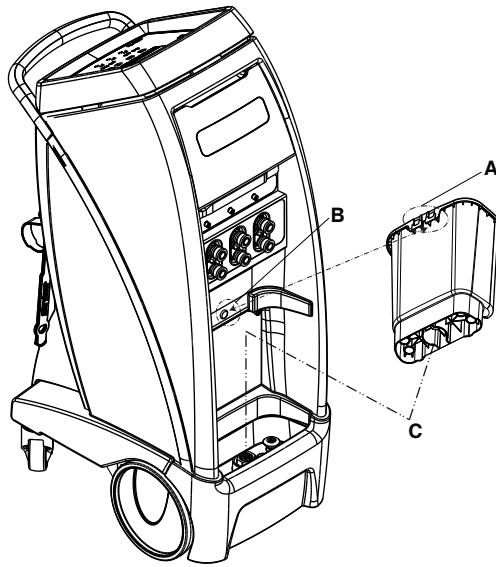

Figure 6 – Removable reservoir
To remove the reservoir, pull forward at an angle, and lift out the reservoir (Figure 6).
1. To replace the reservoir, align the base of the reservoir over the drain (C).
2. Align the notch on the back of the reservoir (A) with the hook on the controller (B) (Figure 6).